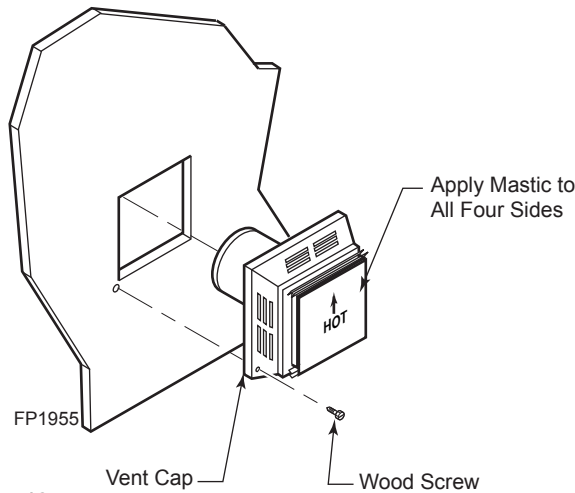

Figure 18 - Install Horizontal Vent Cap
4. Apply a bead of non-hardening mastic around the outside edge of vent cap. Position the vent cap in the center of the 7½" (190 mm) or 9½" (241 mm) hole on the exterior wall with the word "UP" on the vent cap facing up. Insure proper clearance of 1" to combustibles is maintained. Attach the vent cap with four wood screws supplied. *Figure 18*